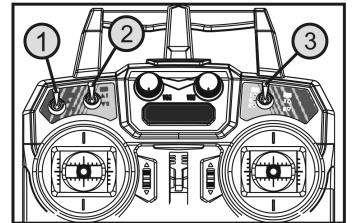

Figure 13
Before you let your model take off for the first time, check the switch positions of the three rocker switches „IOC“ (1), „GO-HOME“ (2) and „GPS“ (3). The switches must be in the front or top position according to the drawing in figure 13.